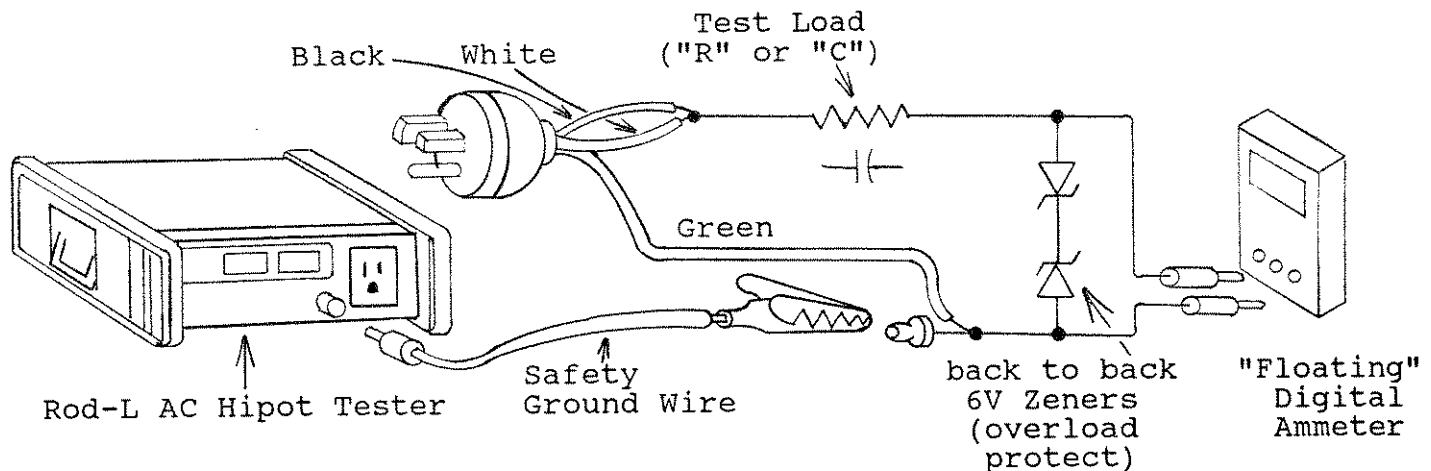

Figure 4-2: Setting Up With a Digital Ammeter
Push the RESET button. Insert a Digital Ammeter in series with a 0.95% of full scale high voltage load resistor (AV only) or a high voltage load capacitor (AV and BV) as shown in Figure 4-2.
- A) Turn the TOTAL CURRENT and REAL CURRENT (on BV models only) failure TRIP POINT potentiometers fully CW. Turn the UNDER CURRENT failure TRIP POINT potentiometer fully CCW. Insert the calibration load (see Table 4-1) to pull nearly F.S. Current into the Hipot Tester HV output receptacle. The DMM shown in Figure 4-2 is not needed in this test. However, the dual banana jacks should be shorted together.